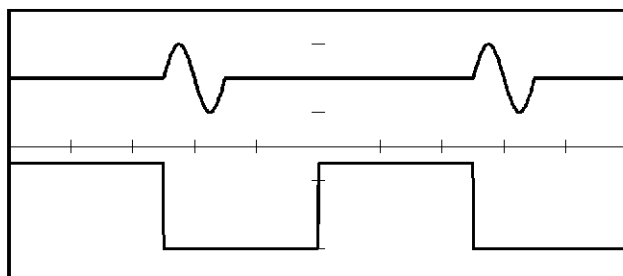

Figure 8-13 Waveform for Single, Once, Negative
28. Make sure with the oscilloscope that a sine wave signal is output for one period from the falling edge of the trigger signal, as shown in Figure 8-13.